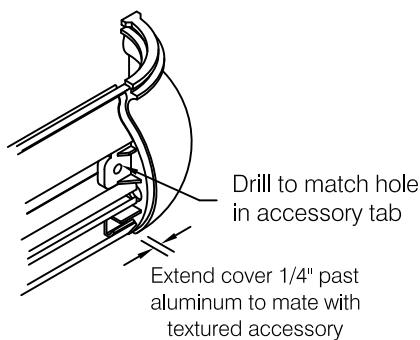

fig 8
- Step 7:** Insert molded accessories in end of aluminum retainer, press firmly to ensure molded part is seated squarely against the retainer. Drill accessory mounting holes using the accessory as a template, see **fig 8**.
- Step 16:** Measure between textured surface of wall returns, corner accessories, and vertical accents (where used) and cut bumper guard cover to fit. Cover should extend 1/4" beyond ends of aluminum retainer to mate fully with the molded base, see **fig 8**. Offset butt joints in bumper guard cover from joints in aluminum retainer.